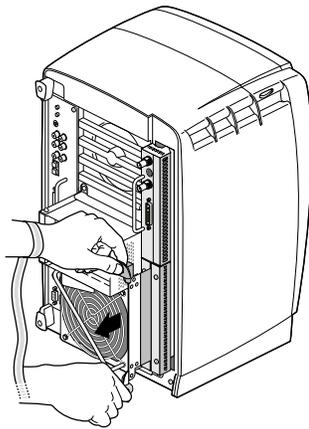

Figure 5-8 Releasing the XIO Tri-Module
2. Grasp the sliding handles and pull them until the sliding portion of the XIO Tri-Module protrudes about an inch from the chassis, as shown in Figure 5-8.